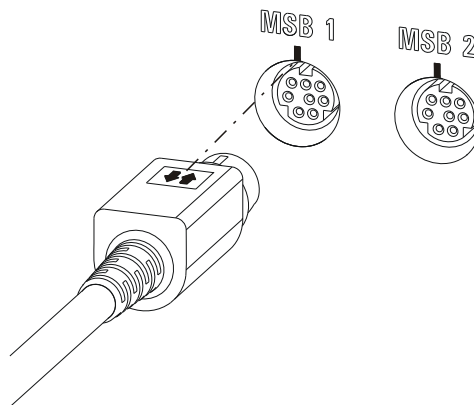

Figure 5 MSB connector
- When making the connection, take care to ensure that the flat part of the MSB plug marked with arrows is pointing in the direction of the marking on the MSB connector (see figure 5, page 16).